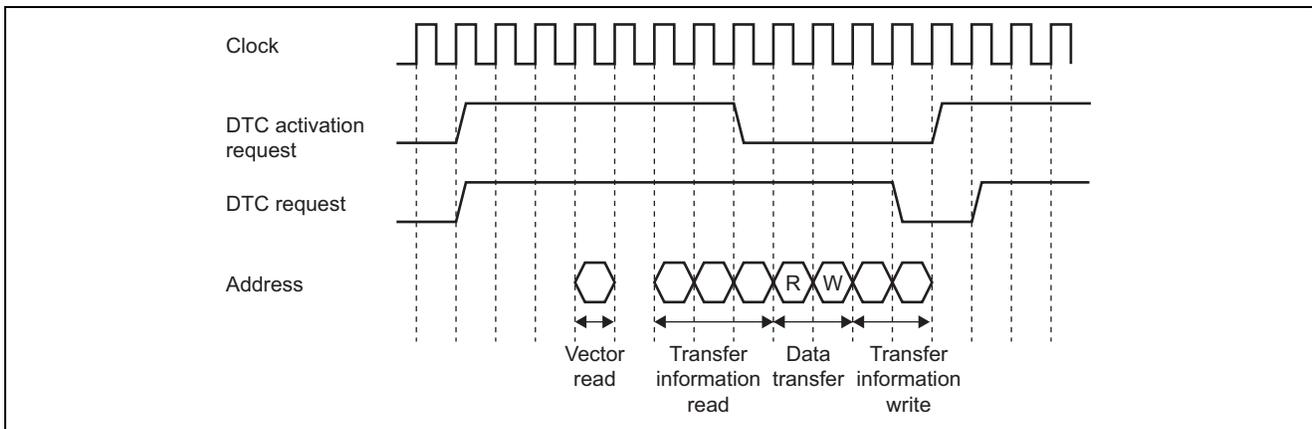

Figure 5 Timing
- Figure 5 shows the timing of the transfer information write-back skip processing.